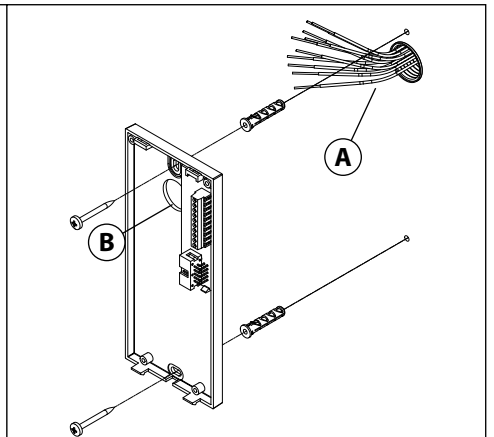

Fig. 5
- Connect ribbon cable plug **(D)** from the front plate into plug **(E)** on the pcb connection board as shown in **Fig. 5**.